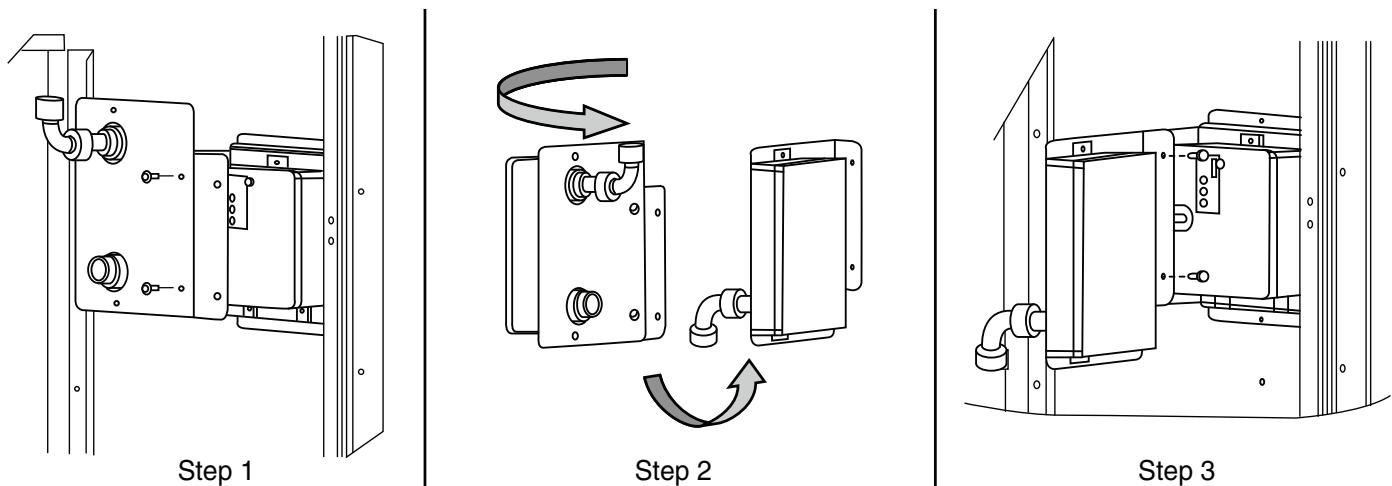

Fig. 54 — Completing Installation of Return Air Smoke Sensor
1. Unscrew the 2 screws holding the Return Air Smoke Detector assembly. See Fig. 54, Step 1. Save the screws.
2. Turn the assembly 90 degrees and then rotate end to end. Make sure that the elbow fitting is pointing down. See Fig. 54, Step 2.
3. Screw the sensor and detector plate into its operating position using screws from Step 1. See Fig. 54, Step 3.